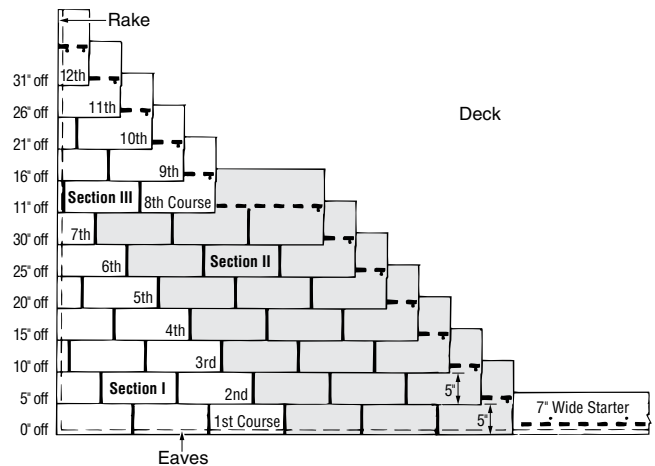

Figure 10-9: Five-Inch, Stepped-Off Diagonal Method.
1. Begin the second course by cutting 5" off the left end of a shingle and applying the 31" piece over the first-course shingle, flush with the left edge of the first-course shingle, and exposing the first course 5" (Figure 10-9).
3. Install “Section II” as shown in Figure 10-9 using full shingles against the seven courses in “Section I.” This must be done before continuing with courses eight through 12 (“Section III”). These “Section II” shingles are to be butted-up against the “Section I” shingles that started courses one through seven. Fasten all shingles in the normal fashion.
1. Begin the eighth course by cutting 11" off the left end of a shingle and applying the 25" piece over the seventh-course shingle, flush with the left edge of the seventh-course shingle, and exposing the seventh course 5" (Figure 10-9).